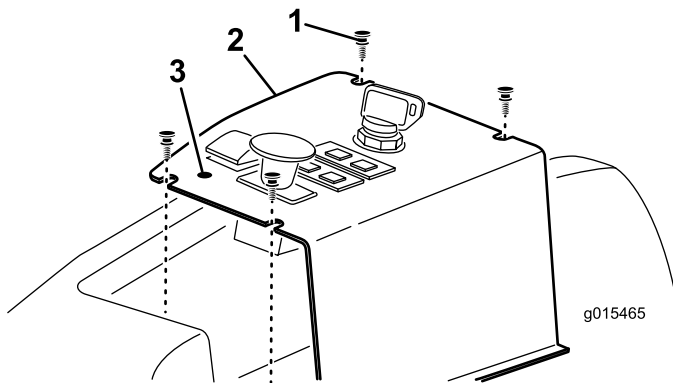

Figure 13
1. Carefully locate and puncture the control-panel decal, in front of the lift switch, to expose the mounting hole for the lift-lock lever (Figure 13).
2. Remove the 4 screws securing the control panel to the machine (Figure 13).